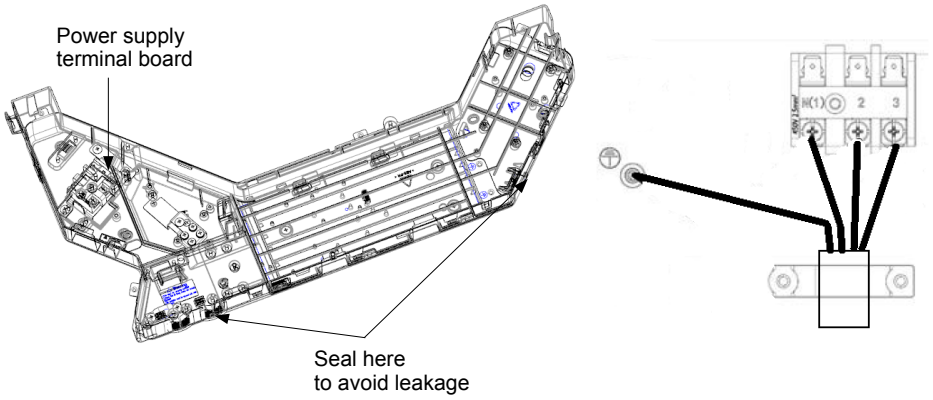

Fig.39
| ③ . Connect the indoor unit connection cord properly based on the corresponding marks as shown in Fig.39. |